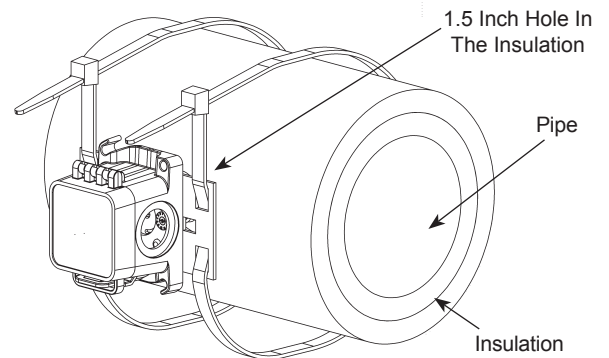

Fig 3: Spring-Loaded Strap with BAPI-Box Crossover Enclosure installation
1. Fig 3 shows a typical installation for insulated pipes from 5" to 14" and insulation thickness from 0.5" to 2.5".